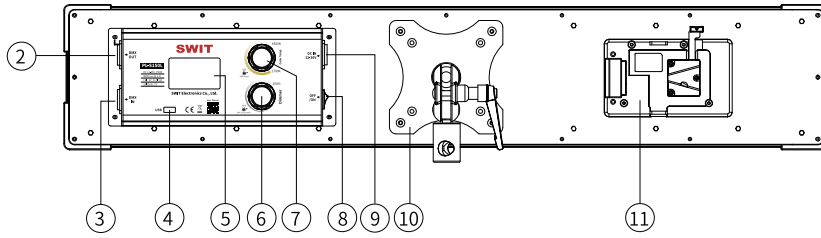
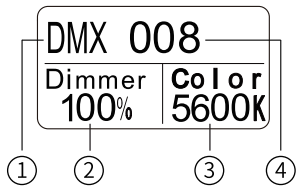
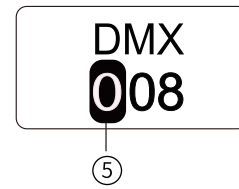
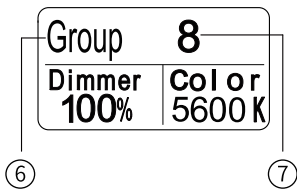

Fig.4 PL-S150L Back View
Fig.5 DMX Mode
Fig.7 DMX Address setting Interface
Fig.8 Group Mode
Rotate Dimmer/Color knob(Fig.4 ⑥/⑦)to adjust the intensity and color temperature, the setting range are below:
Long press Color adjustment knob(Fig.4 ⑦)to change the light to DMX communication mode(See Fig.5), long press Dimmer adjustment knob (Fig.4 ⑥)to enter into DMX address setting interface(See Fig.7)for DMX address setting:
The black shading (Figure 7 ⑤) indicates that the current bit is selected. Turn the Dimmer adjustment knob (Figure 4 ⑥) to set the current bit, press the Dimmer adjustment knob (Figure 4 ⑥) to set the current bit and go to the next bit. When the last bit is set, press the Dimmer adjustment knob (Figure 4 ⑥) or wait for about 5s after stopping the operation to exit the setting of the communication address.
Press the Color adjustment knob (As shown in FIG. 4 ⑦) to make the current communication mode of the lamp set to Group communication mode (as shown in FIG. 8), and pass Dimmer
Enter the Group address setting interface (as shown in Figure 10) and turn the Dimmer adjustment knob to set the Group address. Press the Dimmer adjustment knob (As shown in Figure 4 ⑥) or stop the operation and wait for about 5 seconds to exit the communication address setting.
USB port (Figure 4 ④) is a reserved port, please use according to the specified environment of the company's related products, can not be used for other purposes, in order to avoid losses.